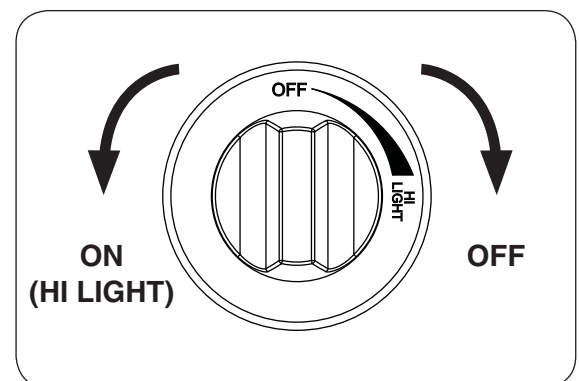

Fig. 27-2
4. **Once the match is burning and in position**, depress the gas control knob and turn it counter-clockwise to the **HI LIGHT** position (see Fig. 27-2). Your burner should light.
To extinguish your gas burner, depress the gas control knob and turn it clockwise to the **OFF** position (see Fig. 27-2). Be sure the control knob is turned fully off to avoid any gas leakage.